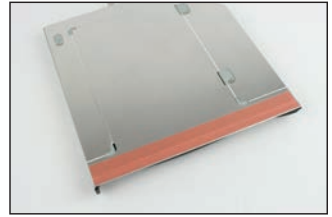

Figure 5. The colored strip is the adhesive protective film.
- c. Insert the DP27 into the optical bay. If the DP27 does not lay flat against the laptop chassis, remove it from the bay and remove the adhesive protective film on the top of the DP27 (see Figure 5). Reinsert the DP27 and press it onto the laptop to adhere it.
Firmly press the included key into the square keyhole on the left side of the frame to eject the carrier (see Figure 5).